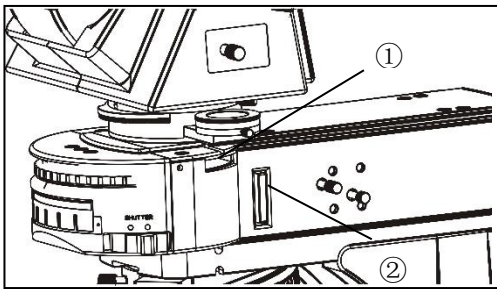
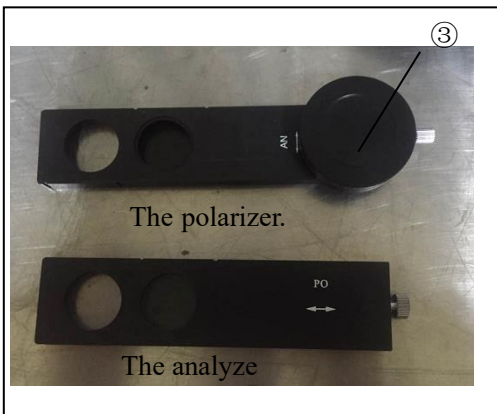

Figure 24
Figure 25
**3-21 Use the polarizer and the analyze (Figure 24)**
1. Face the screened surface of the polarizer (Figure 25) forward, insert the polarizer slot (② in Figure 24), and then move the polarizer into the light path.
2. Remove the dust cover and push the analyze (Figure 25) into the slot (① in Figure 24).
3. Turn the deflector turntable (③ in Figure 25) to find the darkest position in the field of view.
◎ When using a polarizer, the analyze is inserted into the Burgundy mirror. When using the gold phase unit, the analyze is inserted into the slot (① in Figure 24).